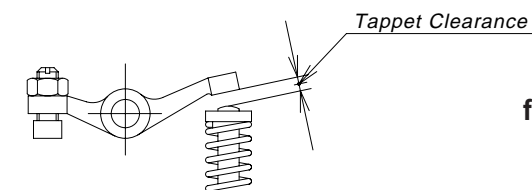

fig.3
- 2 The proper clearance should be set at not more than 0.002" maximum. The adjustment is achieved by loosening the lock nut (fig.3) and turning the adjustment screw. The engine must be at top dead center on the compression stroke before any adjustments are made. This engine runs best with the valves set at a tight setting. If the valves are set too loose, power will be affected.